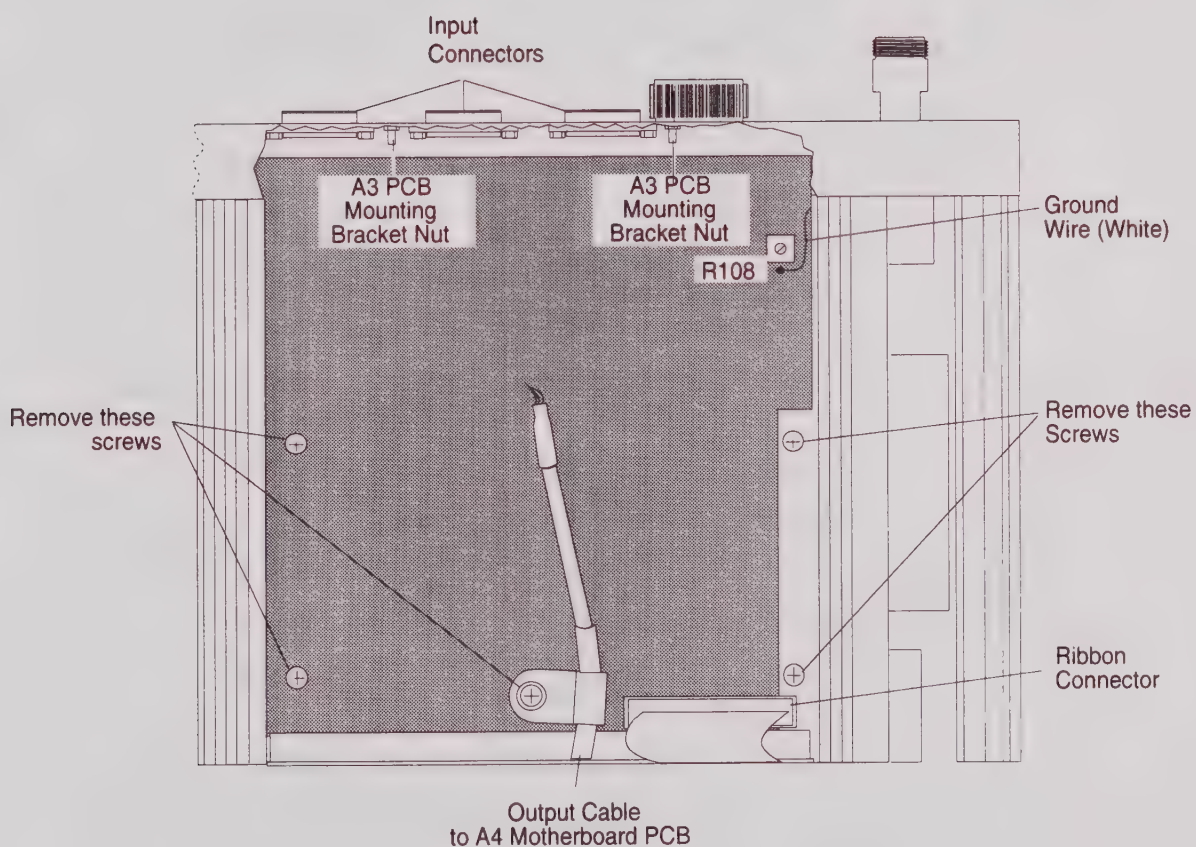

Figure 7-5. Removing the A3 Signal Channel PCB and Front Panel Input Connectors
- Step 3.** Disconnect the white grounding wire (Figure 7-5), and dress it away from the PCB.